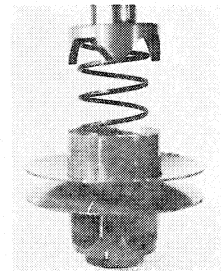

Fig. 16
10. Replace plastic gasket in outboard end cap, keeping it in place with a small dab of grease and place end cap on top of spring. **MAKE SURE ALL REFERENCE MARKS LINE UP.** Failure to do so will alter balance of sheave. Move entire assembly under arbor press as shown in Fig. 16.